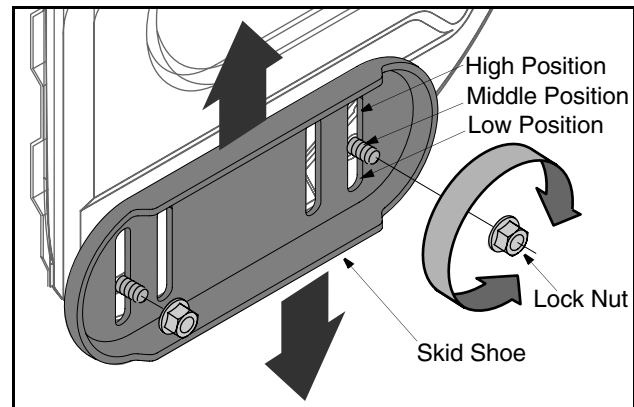

Figure 7
1. Adjust skid shoes by loosening the four lock nuts and carriage bolts and moving skid shoes to desired position. See Figure 7.